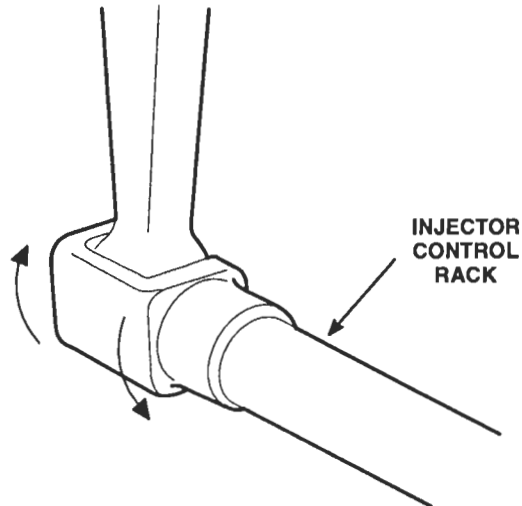

Figure 5. Checking Rotating Movement of Injector Control Rack
8. To be sure of the proper rack adjustment, hold the speed control lever in the maximum speed position and press down on the injector rack with a screwdriver or finger tip and note the "rotating" movement of the injector control rack (Figure 5.)